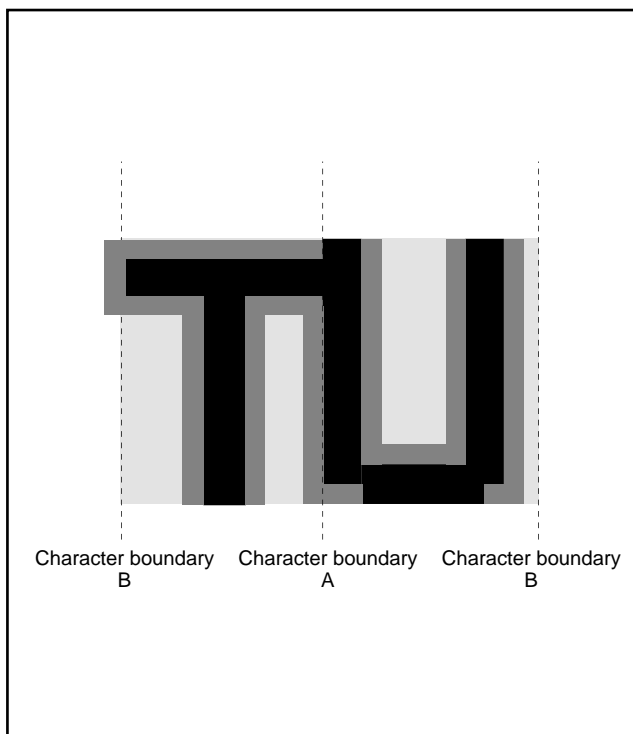

Fig. 73. Border priority
**3 :** When the border dot overlaps on the next character font, the character font has priority (refer to Figure 73 A). When the border dot overlaps on the next character background, the border has priority (refer to Figure 73 B).